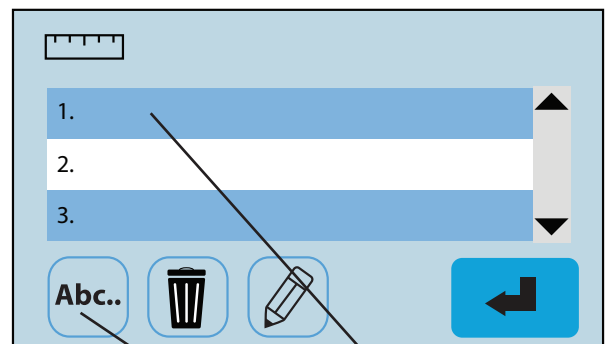

Fig. 19
5. Select the job number the fold will be saved as (Fig. 19). Press the letter icon  to bring up the keypad to name the custom fold.